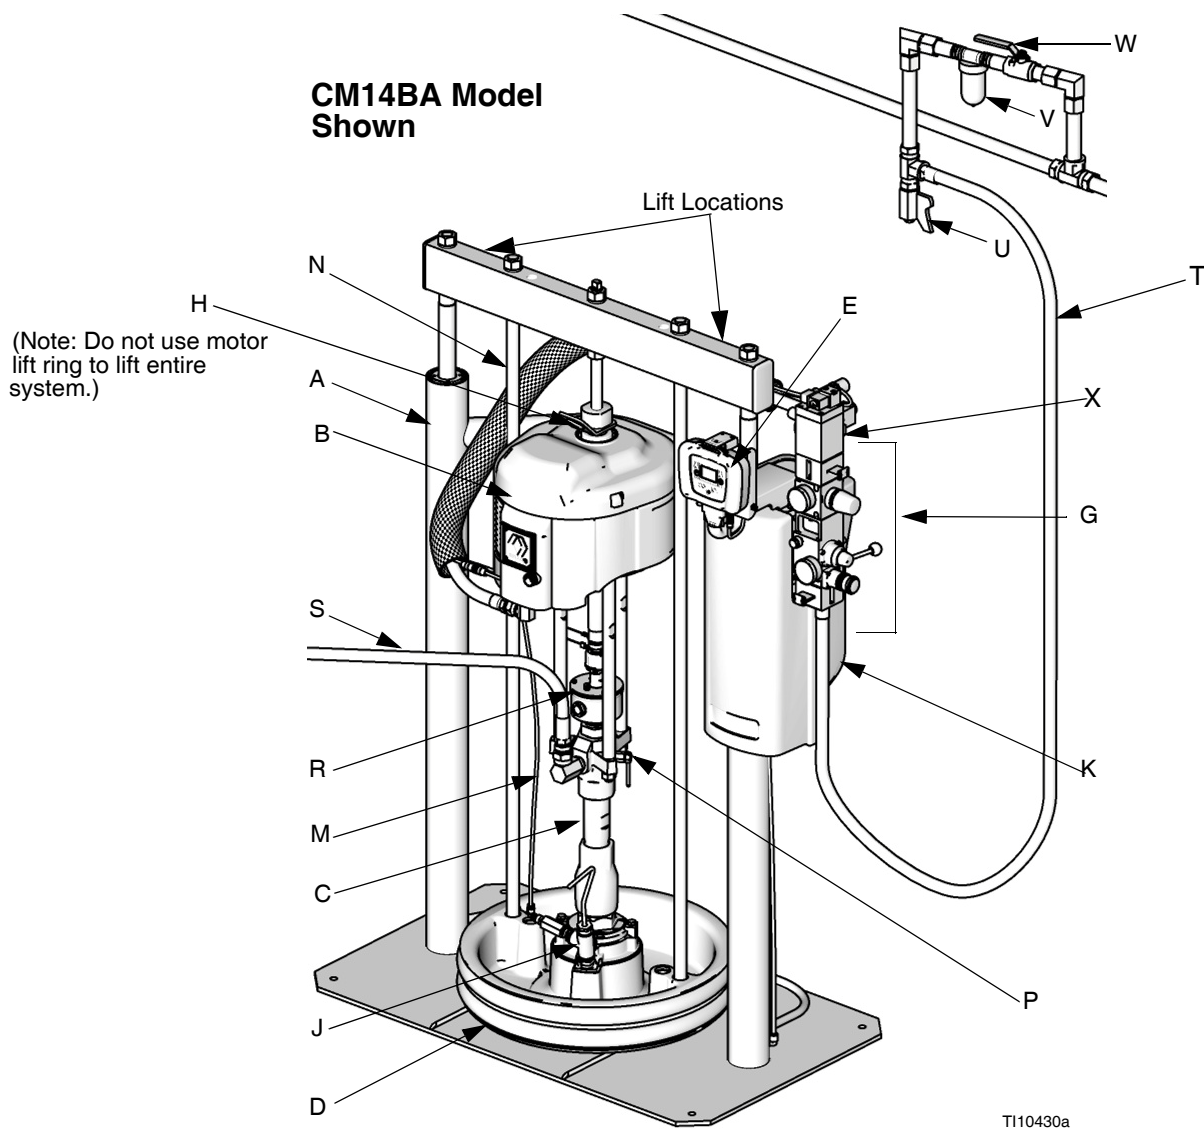
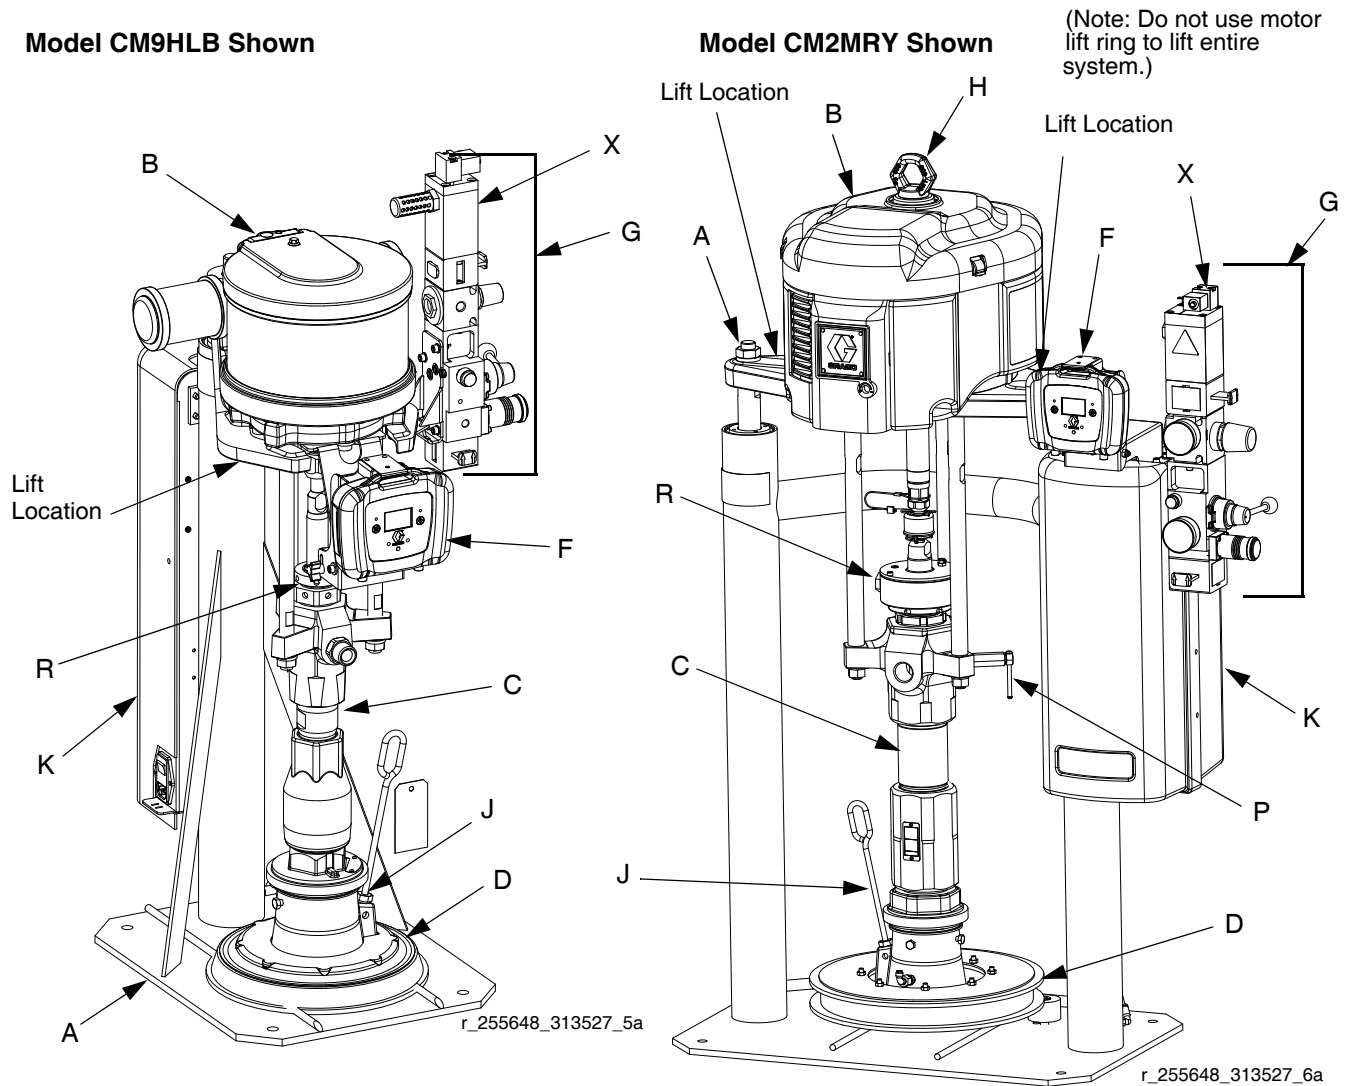

FIG. 1
FIG. 2
| A | Ram Assembly | W | Bleed Type Air Shutoff Valve (not supplied, see FIG. 1) |
| S | Fluid Line (not supplied, see FIG. 1) | | |
| T | Air Line (not supplied, see FIG. 1) | | |
| U | Air Line Drain Valve (not supplied, see FIG. 1) | | |
| V | Air Filter (not supplied, see FIG. 1) | | |
- **Main air slider valve (BA):** turns air on and off to the system. When closed, the valve relieves pressure downstream.
- **Ram air regulator (BB):** controls ram up and down pressure and blowoff pressure.
- **Ram director valve (BC):** controls ram direction.
- **Exhaust port with muffler (BD)**
- **Air motor regulator (BE):** Controls air pressure to motor.
- **Air motor slider valve (BF):** turns air on and off to the air motor. When closed, the valve relieves air trapped between it and the air motor. Push the valve in to shutoff. **Remote DataTrak:** The air solenoid (X, FIG. 1), the air motor slider valve (BF), and the main air slider valve (BA) must be open for air to flow. (See **Remote DataTrak Setup**, page 23.)
- **Blowoff button (BG):** turns air on and off to push the platen out of an empty drum.
See FIG. 1.
FIG. 1, FIG. 2, and FIG. 6 are only guides for selecting and installing system components and accessories. Contact your Graco distributor for assistance in designing a system to suit your particular needs.
Always lift supply system at proper lift locations (see FIG. 1, FIG. 2, and FIG. 6). Do **not** lift in any other way.